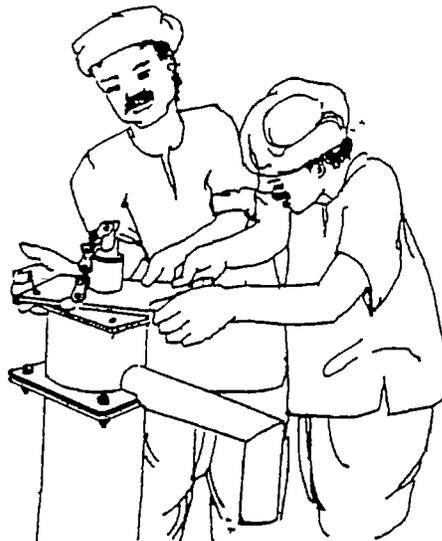

FIG:4.41 PUTTING MIDDLE FLANGE OVER WATER TANK
- xx) Place middle flange and set flanges with water tank, (Fig.4.41)